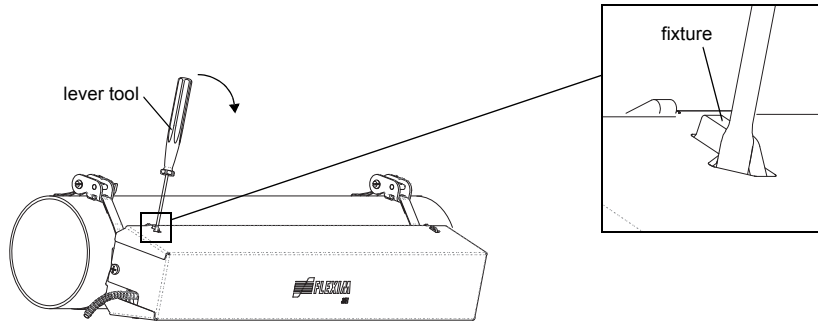

Fig. 8.44: Removal of the cover
- Insert the lever tool in one of the 4 openings of the cover (see Fig. 8.44).